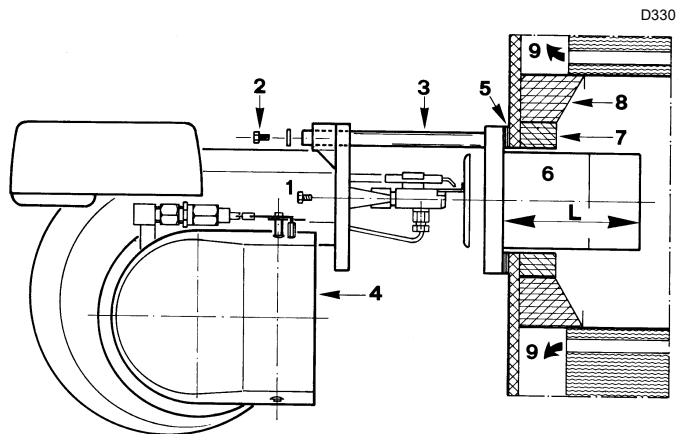

Fig. 9
For boilers with front flue passes 9) or flame inversion chambers, protective fettling in refractory material 7) must be inserted between the boiler's fettling 8) and the blast tube 6) (Fig. 9).
- Leave the burner open as shown in Fig. 9 on page 12.